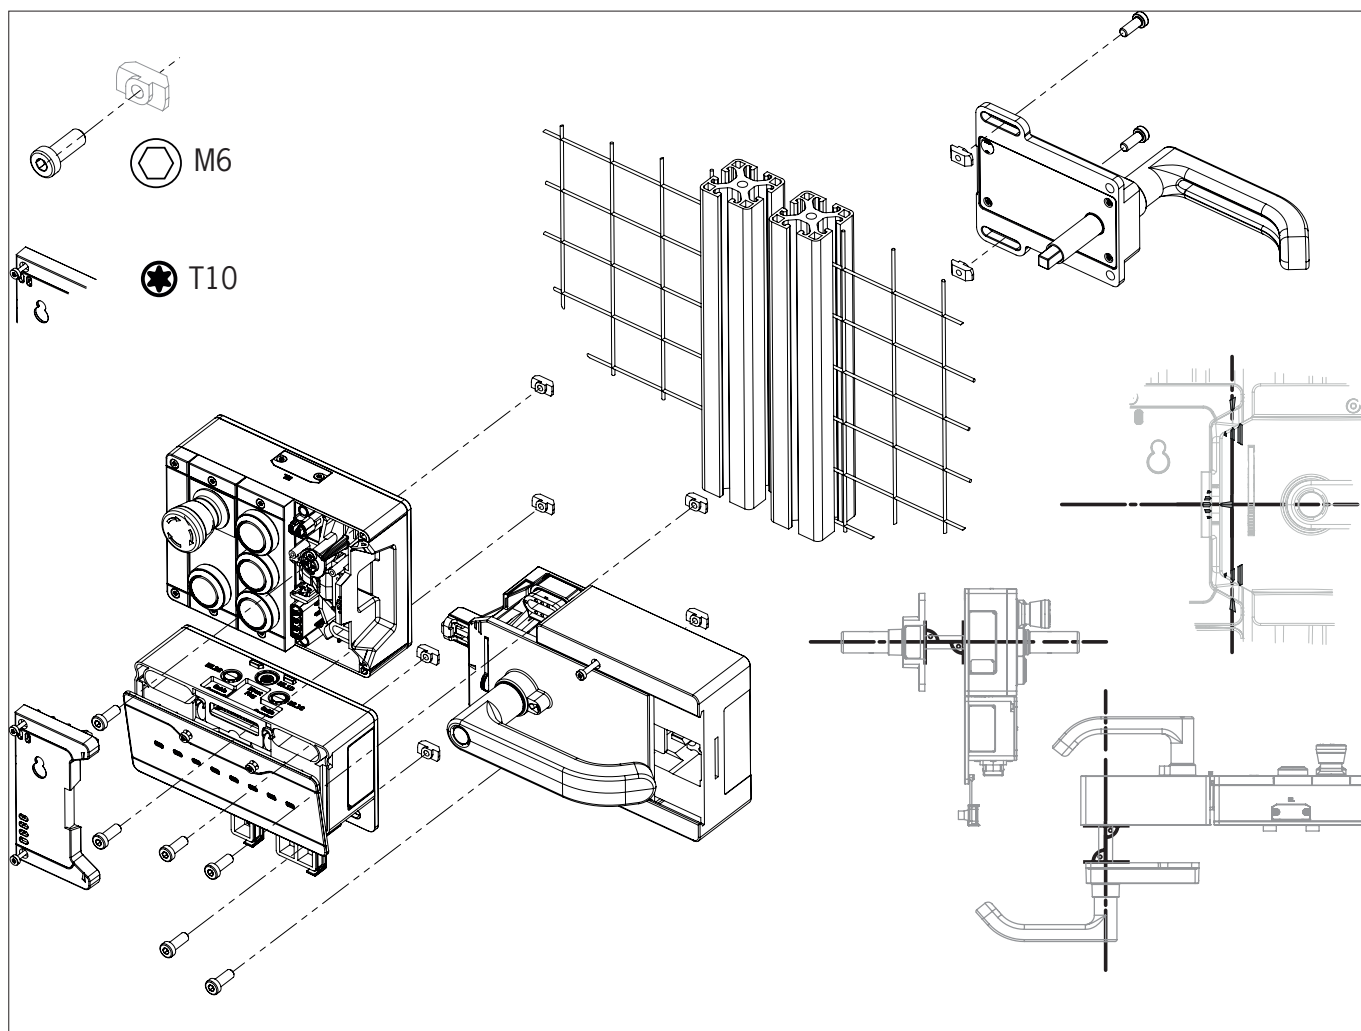
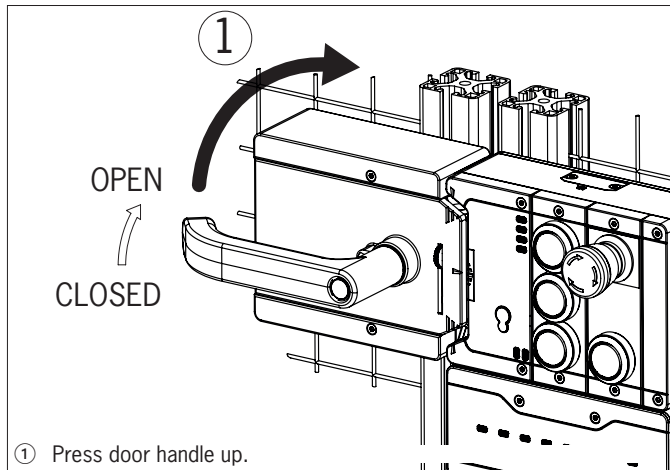
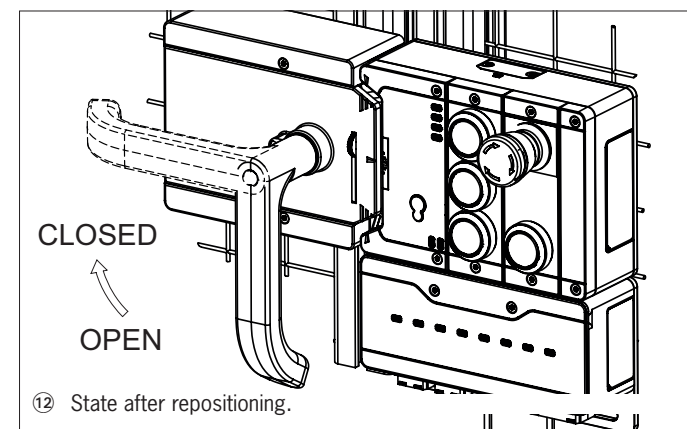

Figure 8: Installation example for door hinged on the right (general view)
Figure 10: Changing actuating direction, step ①
Figure 15: Changing actuating direction, final state
- › Align escape release axis at right angles to the handle module. See *Figure 8*.
- › During mounting, pay attention to correct alignment. Use the alignment aids on the housing for the interlocking/locking module and on the housing for the handle module (see Figure 8).
For mounting steps, see Figure 8 and Figure 10 to Figure 15.
- › The system is mounted the other way up for doors hinged on the left. In other words, the guard opens by pressing up the door handle (see *Figure 10*). For this reason the actuating direction of the door handle must be changed (see *Figure 10* to *Figure 15*).